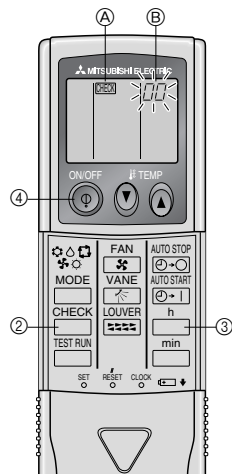

Fig. 7-4
- ② Press the [CHECK] button twice.
- ③ Set refrigerant address with [TEMP] button if system control is used.
- ④ Press the [ON/OFF] button to stop the self-check.
7.3.2. Wireless remote controller (Fig. 7-4)